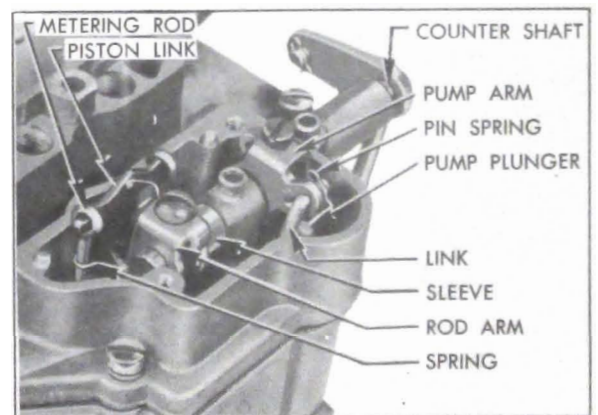

Figure 3-45—Metering Rod and Pump Operating Parts
3. Remove dust cover and gasket. Rotate eyes of metering rods off pins on vacuumer piston link and lift rods out, using care to avoid bending them. See figure 3-45.
4. Remove pump arm link, loosen screws in metering rod and pump arms, then remove pump operating countershaft, spacer sleeve and both levers. See figure 3-45.
down to enter metering rod jet, then rotate eye of rod over pin on vacuumeter piston link. Use care to avoid bending metering rod. See figure 3-45.